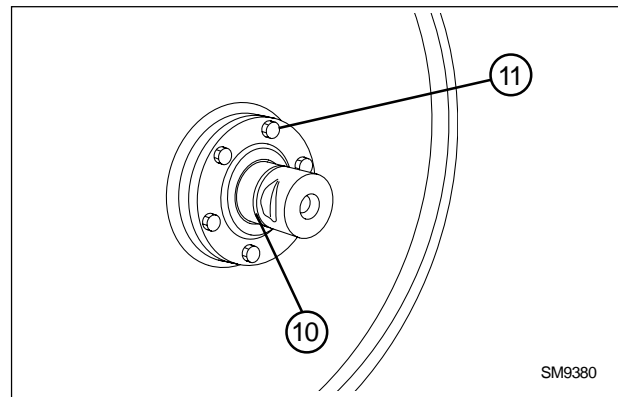
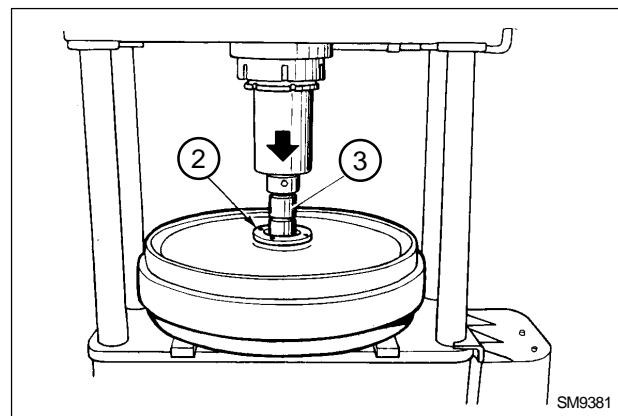

Fig.26
Fig.27
Remove screws (11 fig. 26) securing the bush housings. Remove bush housings (2 fig. 27) assemblies forcing the idler shaft end (3) with a hydraulic press.